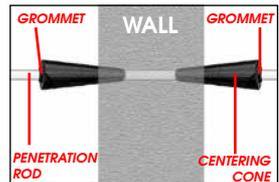

FIGURE 3
3. Remove the penetration rod, and place a centering cone on the exit end of the penetration rod. Place the hex nut, from the stringing tip, onto the threads of the extension rod (Fig. 3).